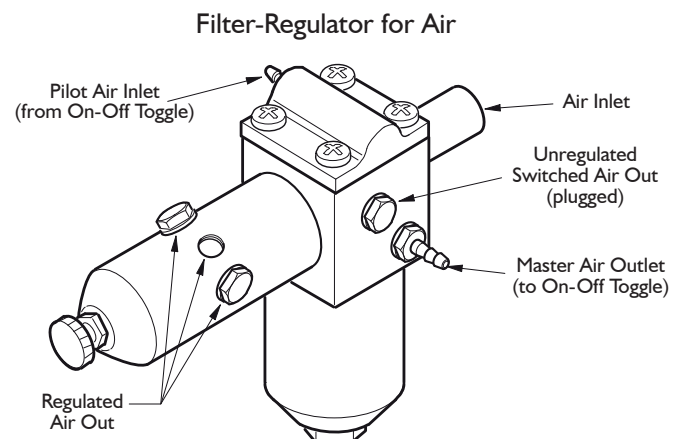

Figure 2
4. Identify the filter-regulator for air. It is the one with an outlet barb on the side of the square block (Figure 2). On the water filter-regulator, there will be a hex plug at this location.
1. Identify the plated 1/16" barb fitting on the side of the filter regulator for air (*Figure 2*). This outlet provides air for the on-off toggle valve. On DCI units there is a transparent tube that goes to the inlet barb on the on-off toggle valve. Connect this tube to the barb on the master shut-off valve.
2. The 1/16" brass barb fitting on the plastic cap of each filter regulator is the pilot air inlet (*Figure 2*). The inlets on the two filter-regulators are joined by a yellow tube with a T-fitting in the middle. Connect the yellow tube that comes from the outlet side of the on-off toggle valve to the center barb on the T-fitting.